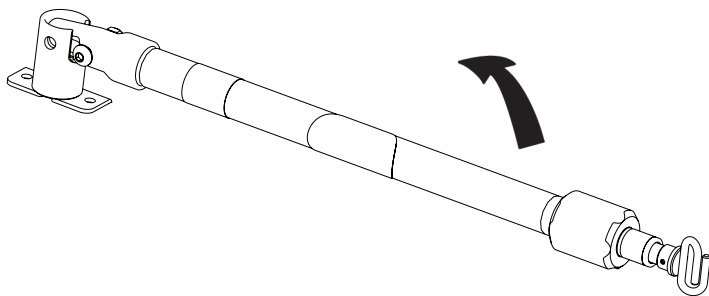

Figure 71: Three-Stage I.V. Pole Storage Position
1. Lift and pivot the pole from the storage position and push down until it is locked into the receptacle (A).
2. To raise the height of the pole, turn the lock actuator (B) counterclockwise and pull up on the bottom telescoping portion (C) of the pole to raise it to the desired height.
3. Turn the lock actuator (B) clockwise to lock the bottom telescoping portion in place.
4. For a higher I.V. pole, pull up on section (D) until the spring clip (E) engages.
5. Hang I.V. bags on the I.V. hook (F).
6. To lower the I.V. pole, push in on the spring clip (E) and slide section (D) down into section (C). Turn the lock actuator (B) counterclockwise and slide section (C) into the bottom tube.
7. Turn the lock actuator (B) clockwise to tighten.
8. Lift up and pivot the pole down into the storage position (see Figure 71).